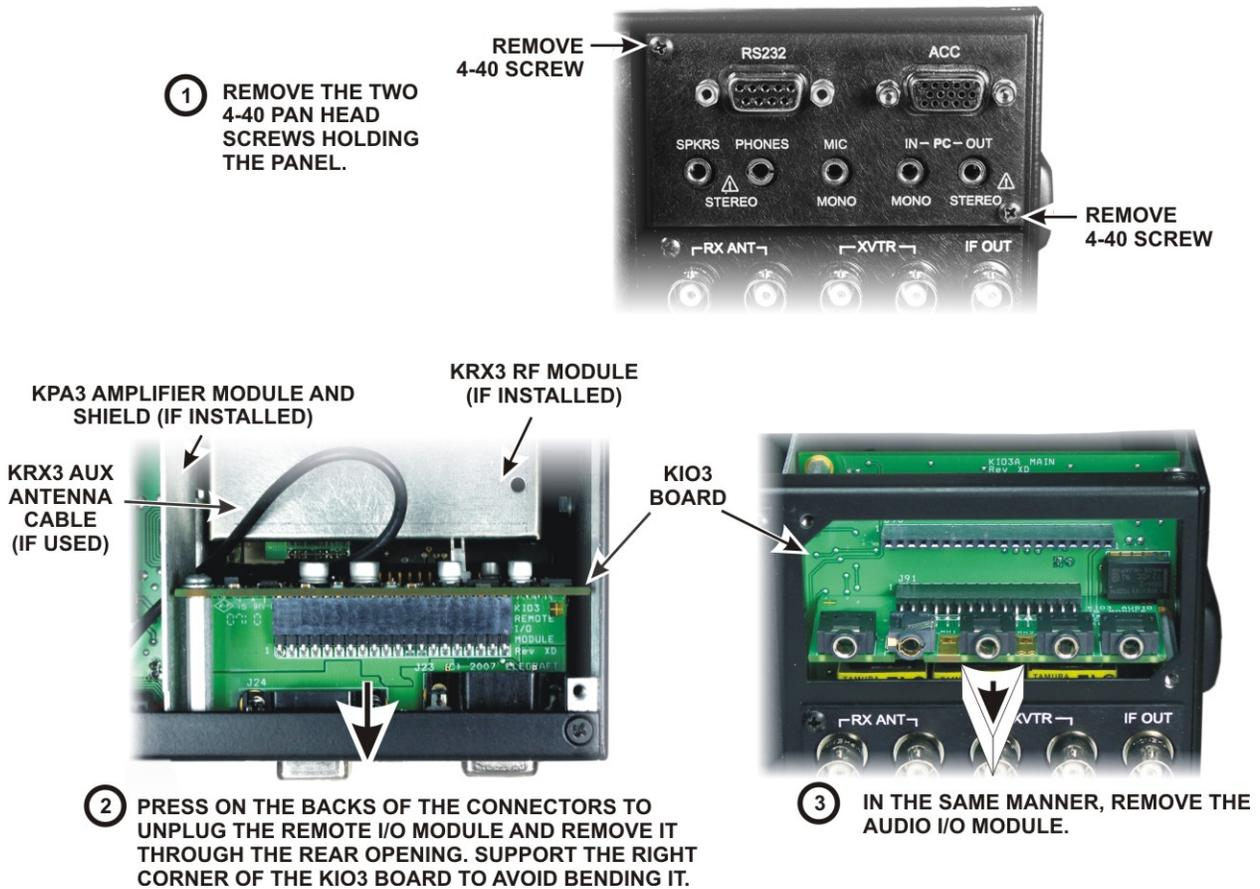

Figure 2. Removing the Remote and Audio I/O Modules.
□ Remove the Remote and Audio I/O modules as shown in Figure 2.
Replace the Audio and Remote I/O modules by reversing the procedure shown in Figure 2. Support the KIO3 main board while mating the connectors to avoid bending it. Be sure the connectors are fully mated and that the connectors on the Audio I/O module line up with the holes in the rear panel.